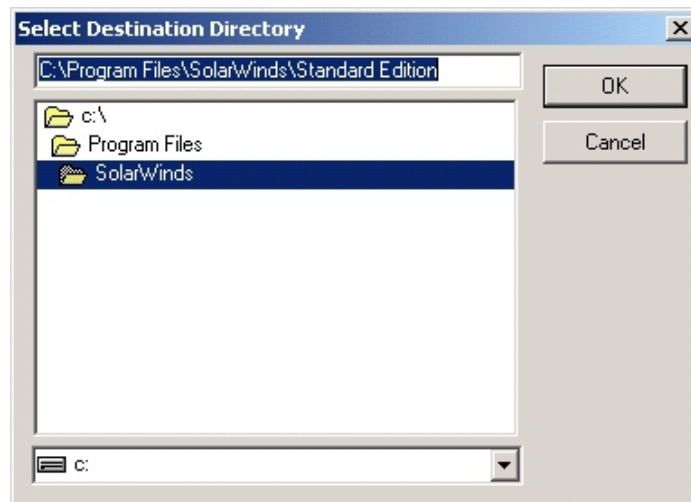

Figure B-2.12
13. To verify the proper path, Select **Browse**. The *Select Destination Directory* box (see figure B-2.12) displays.